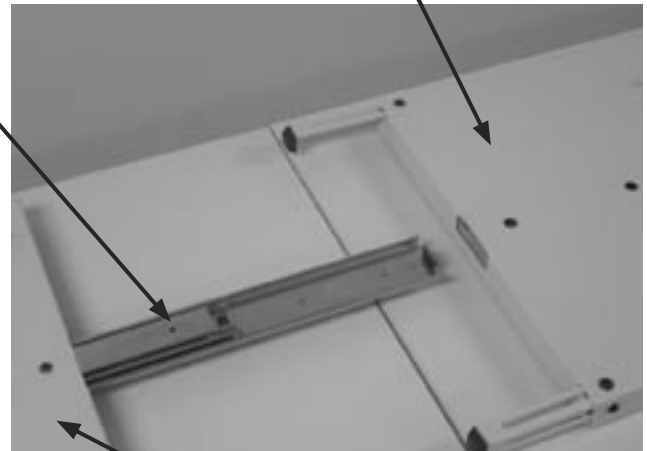

Fig. 1
1. Place two parts of alignment base face up. (Fig. 1).